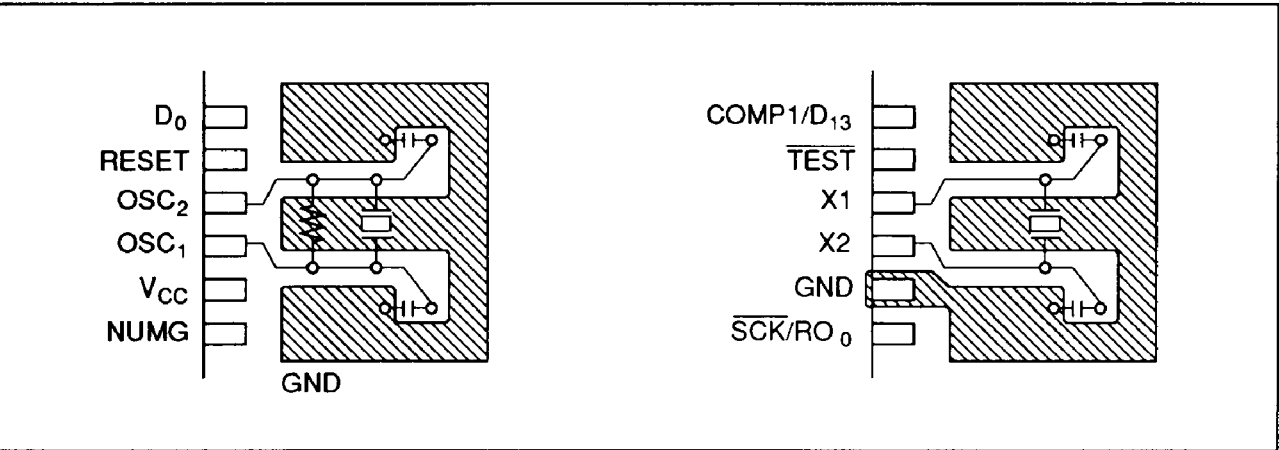

Figure 21 Layout of Crystal and Ceramic Filters
2. Wiring among OSC₁ and OSC₂, or X1 and X2, and other elements should be as short as possible, and avoid crossing other wires. Refer to figure 21.